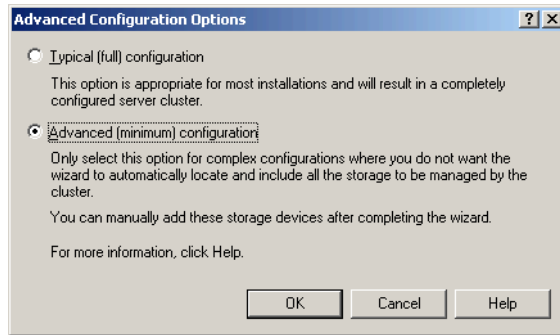
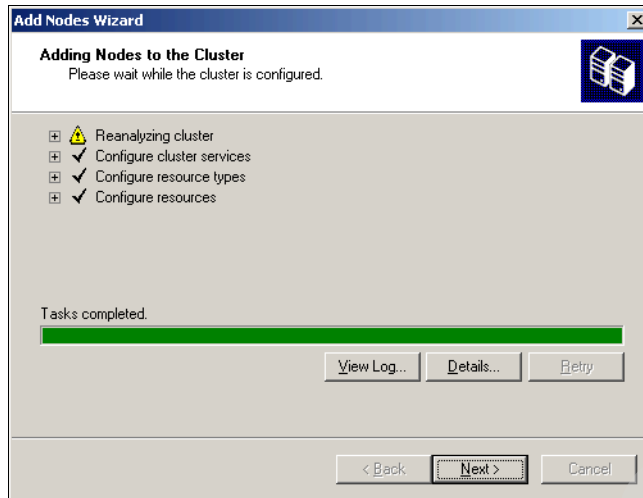

Figure 23-54 Advanced configuration options
Figure 23-58 Adding nodes to the cluster
5. Select **Advanced (minimum) configuration** and click **OK**. See Figure 23-54 on page 577. Not all storage will be included in the configuration. This is not necessary, because the cluster is already running and has access to the drives. The remaining nodes currently cannot access these drives.
10. The cluster configuration is analyzed again, and the cluster service is installed on the selected nodes. The attention mark in Figure 23-58 on page 579 is there because the storage is not detected, because of the Advanced (minimum) configuration selection in Figure 23-54 on page 577. Click **Next** when the installation is complete.